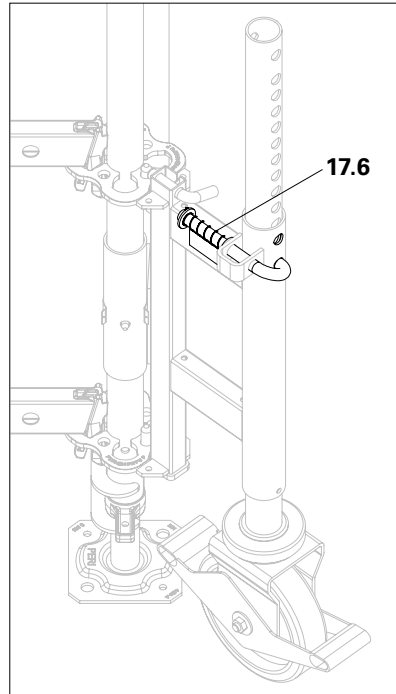

Fig. B1.04c
1. Set down the Transportation Wheels UEW (16) completely on the ground, raise to the next pegging hole and peg with positioning pin (17.6). Secure positioning pin with cotter pins (17.7). (Fig. B1.04c - B1.04d)